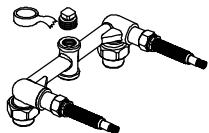

Fig. 2
- 2 For tub installation only, plug top outlet. For shower installation only, plug bottom outlet (see Fig. 2)